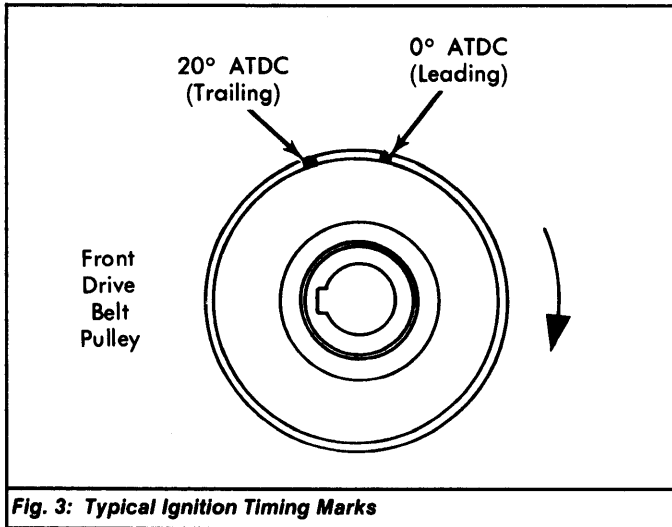
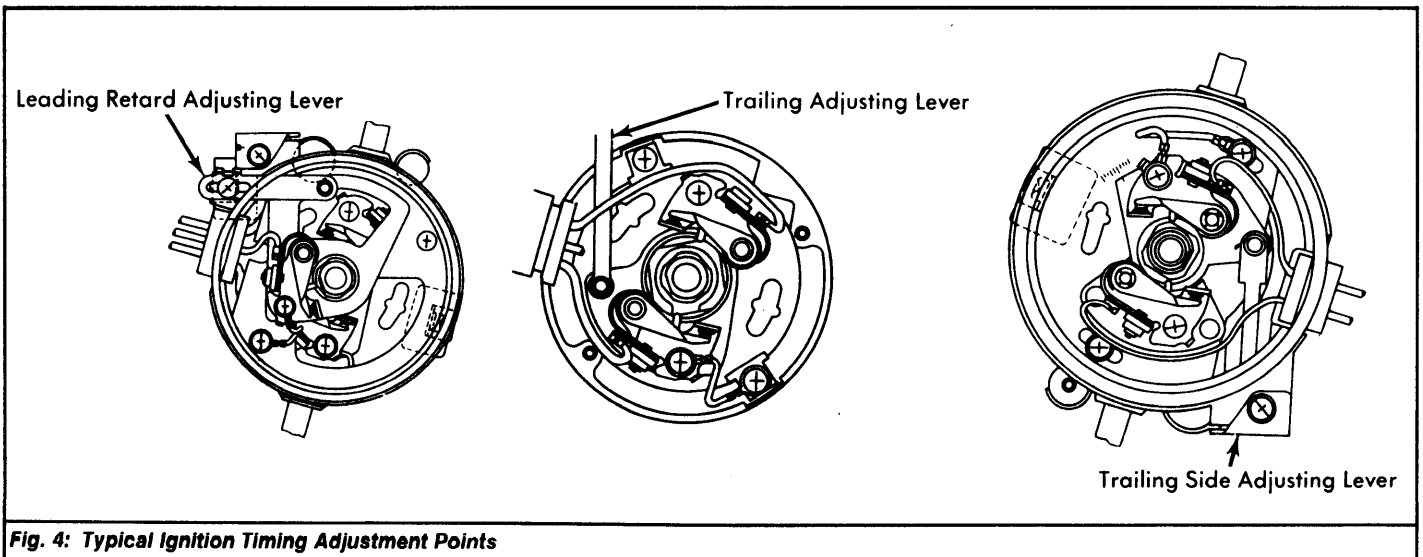

Fig. 3: Typical Ignition Timing Marks
Fig. 4: Typical Ignition Timing Adjustment Points
3) Connect timing light to trailing (top) spark plug on front housing. Start engine and check trailing timing. See Fig. 3. Use external adjusting lever, loosen vacuum unit attaching screws, or loosen leading side breaker base assembly to adjust trailing timing. See Fig. 4.